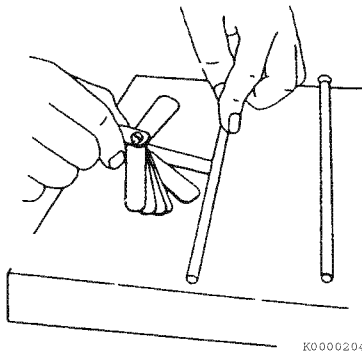

Figure 6-14
3. Use a feeler gauge to measure the gap (**Figure 6-14**). See *Push Rod* on page 6-5 for the service limit.